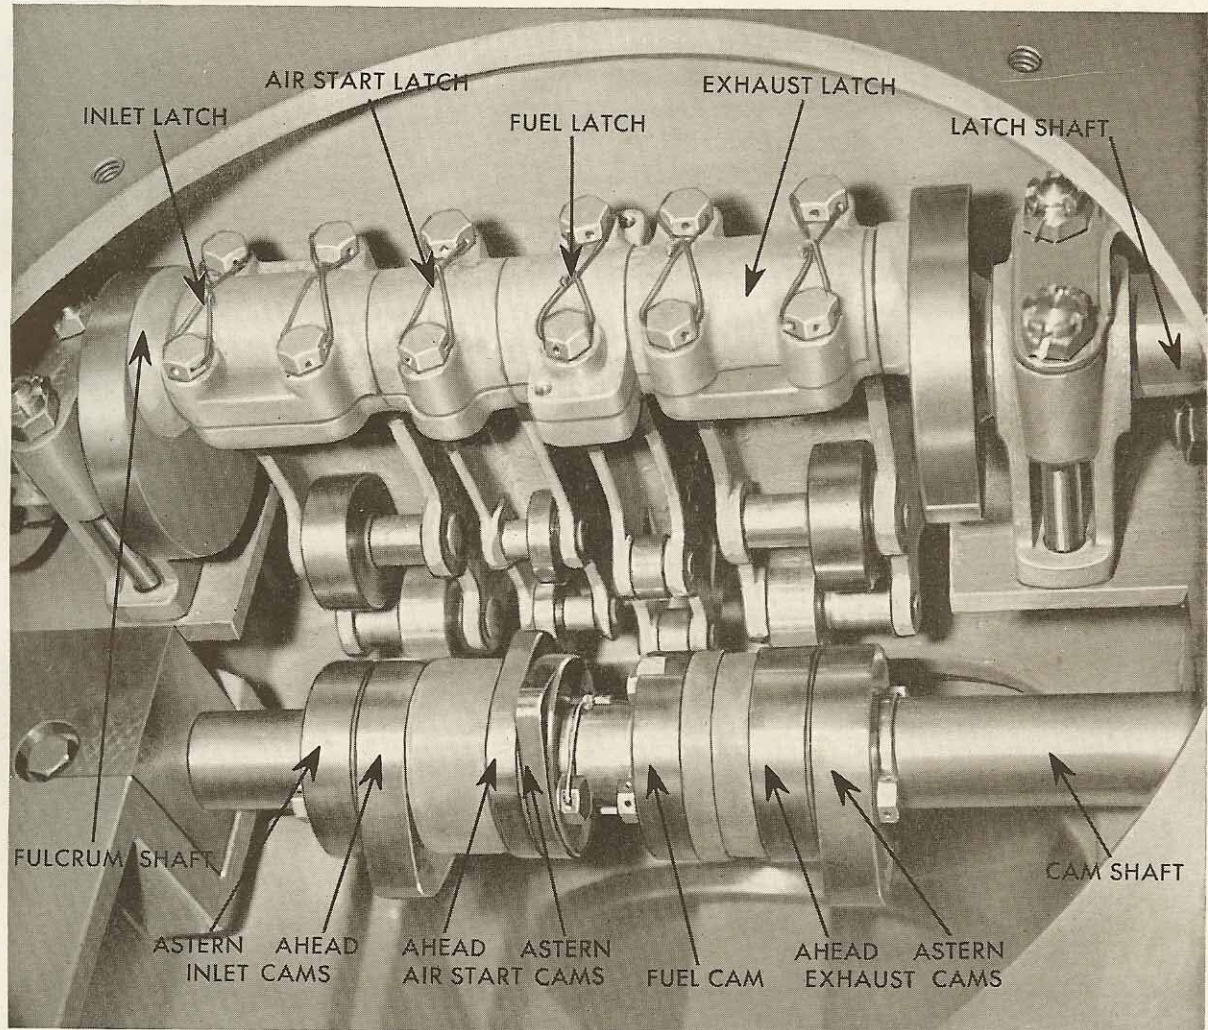

FIGURE 19-2
2. LATCHES: The exhaust latch, shown in Figure 19-2, is identical with the inlet latch except that the position of the rollers is reversed. The fuel latch is lighter in weight and has the rollers placed in line, while the air-start latch has its rollers staggered. The complete latch assembly for one cylinder is shown in Figure 19-2. When removing the latches, care should be taken not to mix the caps or turn them on the latch when assembling.